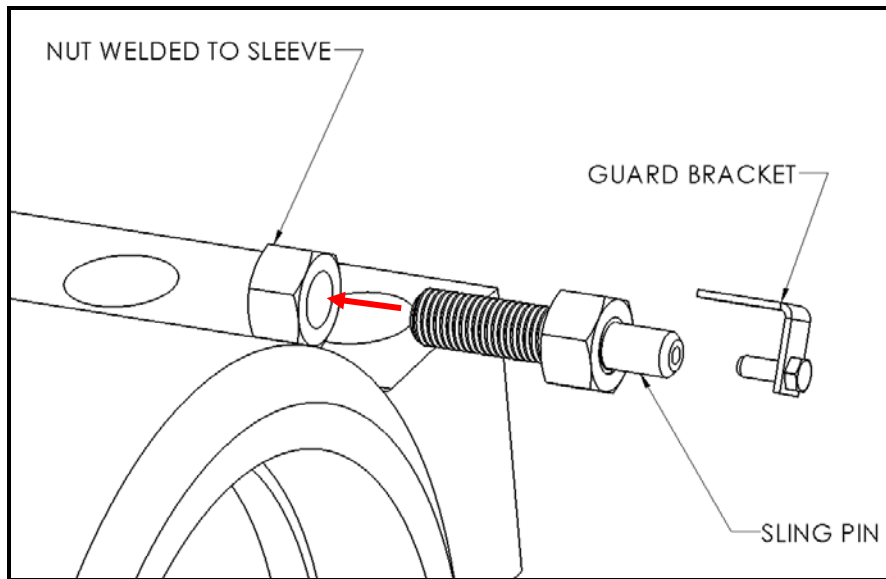

Figure 2
5. Thread the 4 sling pins into the nuts welded on the ends of the Split+Sleeve as shown in Figures 2 & 3. It is easier to install the "L" shaped guard brackets after the sling is placed over the pins.